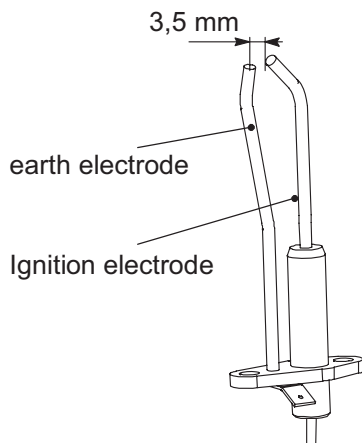
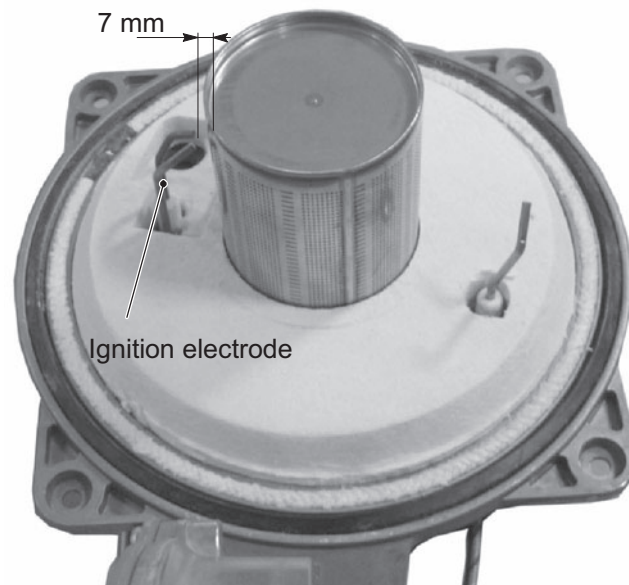

Figure 18.9
Figure 18.10
- 2 Check for the correct distance between the metallic edges of the ignition electrode (see Figure 18.9 - Figure 18.10).